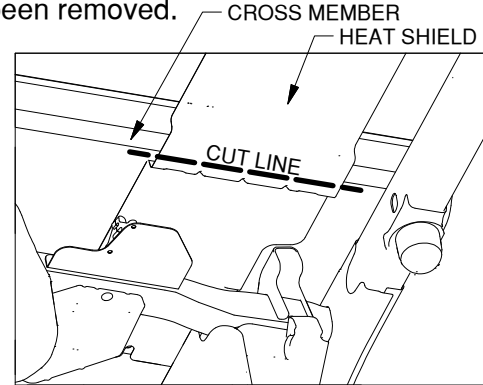

Figure A2: View looking up at bottom of bed above axle.
6. **Remove and discard the heat shield above the rear axle.** A section of the exhaust heat shield will need to be removed. Locate the bed cross member that is directly over the axle, see Figure A2. The section of heat shield in front of this cross member will have to be removed. Cut along the cross member with tin snips or another suitable tool. Make sure that none of the heat shield is protruding past the front of the cross member. Remove the T25 Torx screws holding the front of the heat shield to the truck. Discard the forward section of the heat shield when it has been removed.